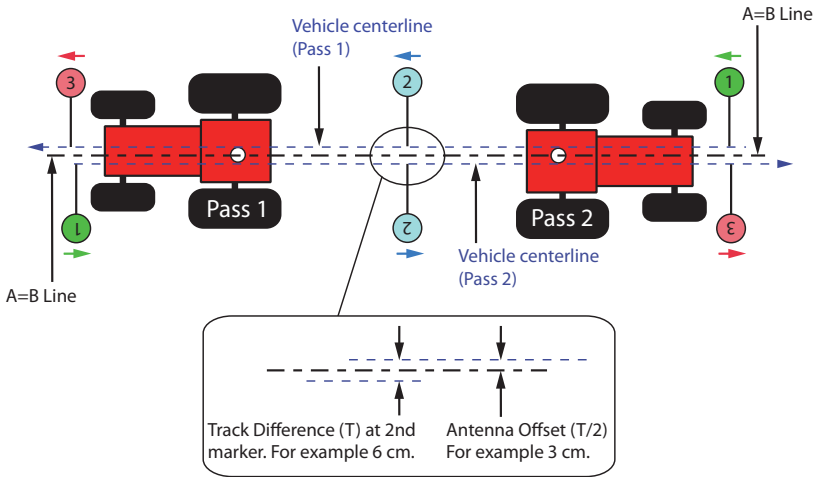

Figure 3-4: Determining the antenna offset (example $6/2 = 3$ cm left)
4. Measure the distance between corresponding marks. In Figure 3-4 the centerline difference is 6 cm.
5. Determine the direction of the offset. This is the direction in which the vehicle would have to move for the second pass to track exactly over the first pass (this tells you if the antenna center is to the left or the right of the vehicle centerline). In Figure 3-4 the vehicle would need to move to the left for Pass 2 to be exactly on Pass 1.